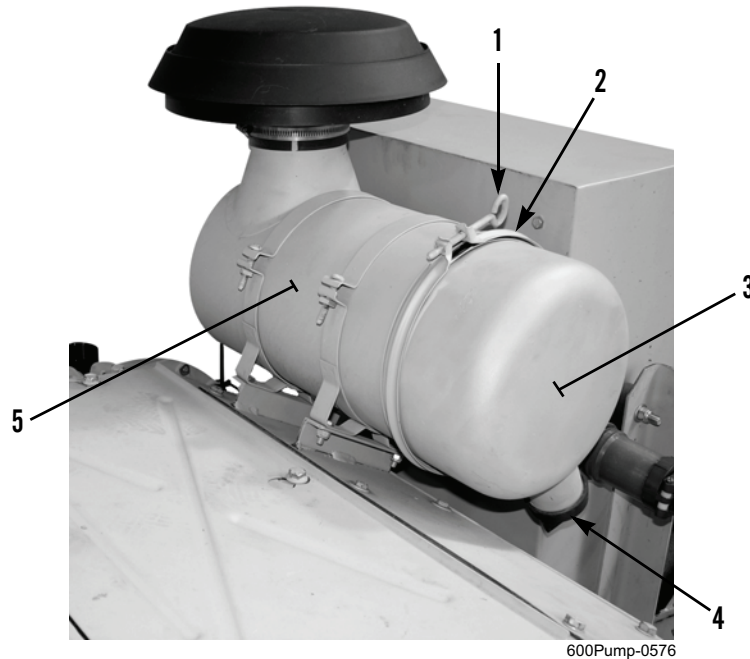

Figure 5. Air Cleaner Housing Cover.
12. Install cover (Figure 5, Item 3) on air cleaner housing (Figure 5, Item 5). Tighten thumbscrew (Figure 5, Item 1) to secure clamp (Figure 5, Item 2).